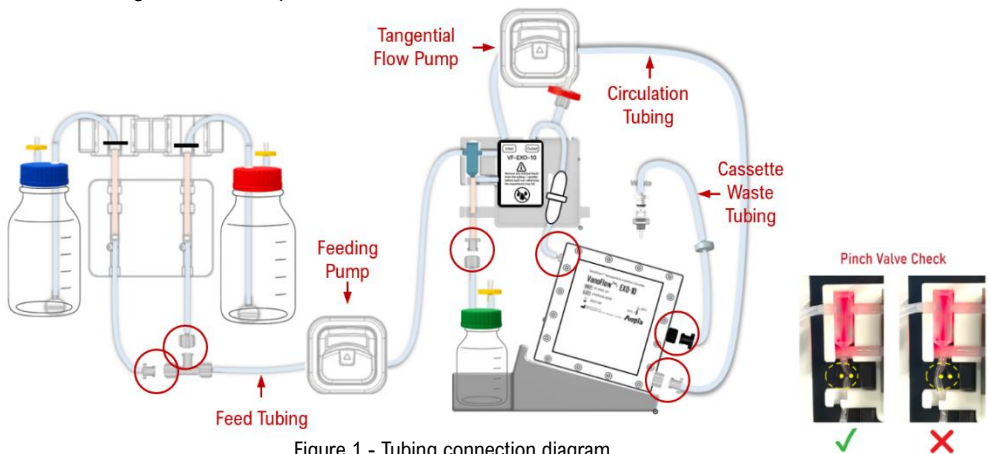

Figure 1 - Tubing connection diagram
- Connect all tubing as indicated by the **Red Circles** in Figure 1.
- Follow the on-screen instructions to complete the required checkpoints. **Verify** that the pinch valve has **securely clamped** the tubing, as shown in Figure 1 (right).